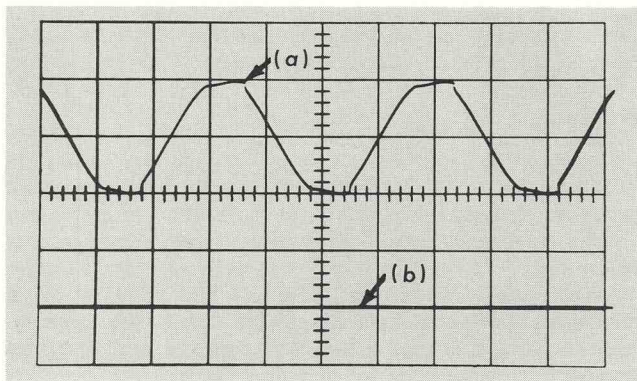

Fig. 2-5. Measuring a voltage with respect to some reference.
To measure the dc level at some point on a signal with respect to ground (see Fig. 2-5), proceed as follows:
4. Touch the oscilloscope probe tip to a ground point, and with the appropriate POSITION control position the trace so that it lies along one of the horizontal lines of the graticule, such as *b* in Fig. 2-5. This line will be used as a ground reference line; its position in any given case will depend upon the polarity and amplitude of the input signal or dc level to be measured. Do not adjust the POSITION control after the reference line has been established.
6. Measure the distance, in centimeters, from the ground reference line established in step 4 to the point at which the dc voltage level is desired, such as between *a* and *b* in Fig. 2-5.